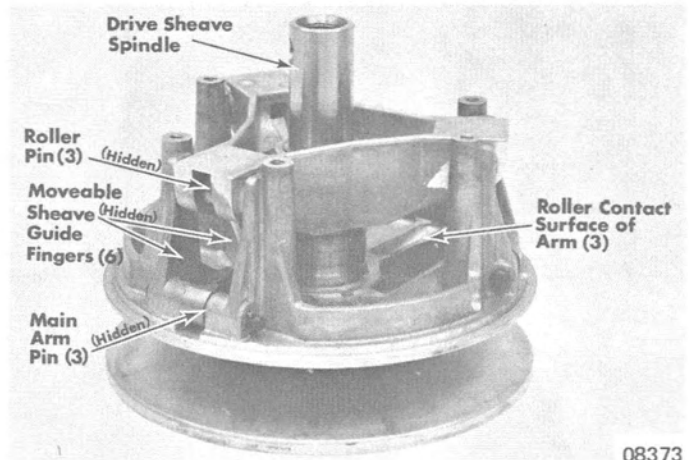

Figure 10. Drive Sheave Lubrication Points
5. Lubricate roller contact surface of arms and moveable sheave guide fingers (Figure 10) with a THIN coating of Low Temperature Grease (C-92-59999).
6. Lubricate roller pins and main arm pins (Figure 10) with a drop of light oil.